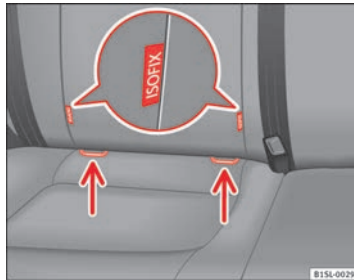

Fig. 53 On the vehicle seat: Identification variants of the anchor points for the child seats
- Press the child seat onto the retaining rings ⇒ Fig. 53 in the direction of the arrow. Safely engage the child seat and click it audibly into place.
- Place the child seat on the seat cushion and attach the retaining strap hooks to the retaining rings ⇒ Fig. 53.